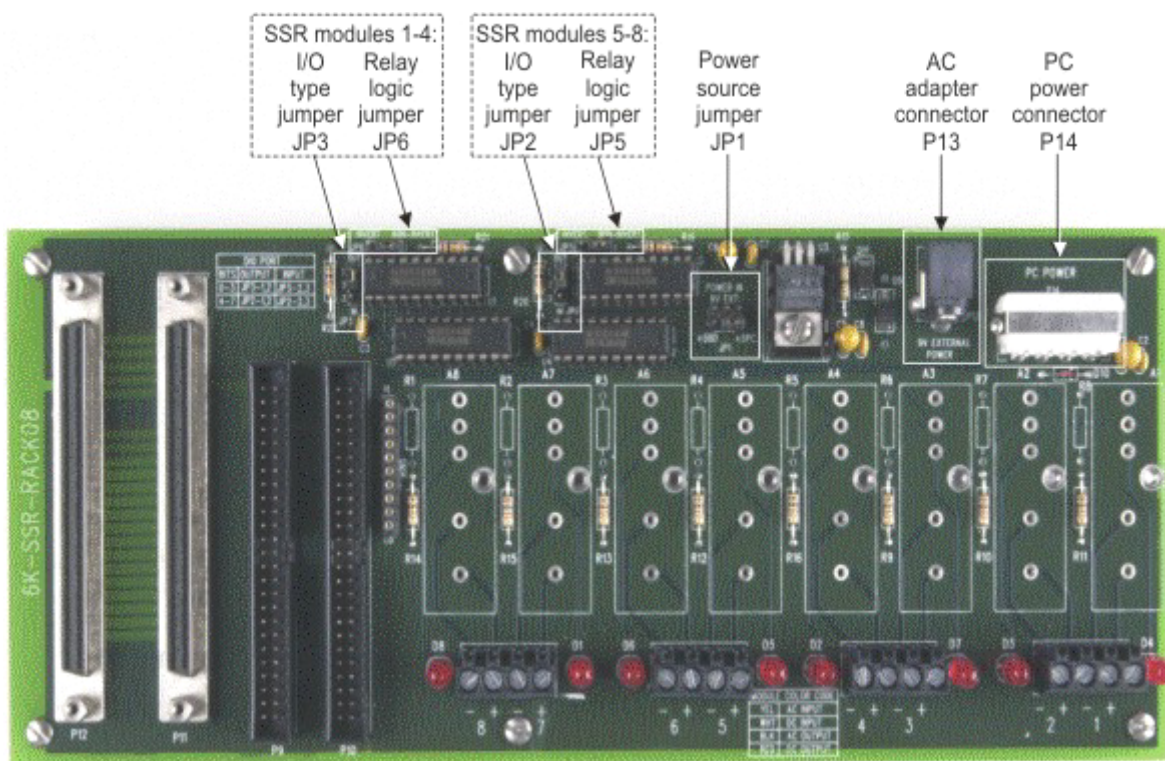
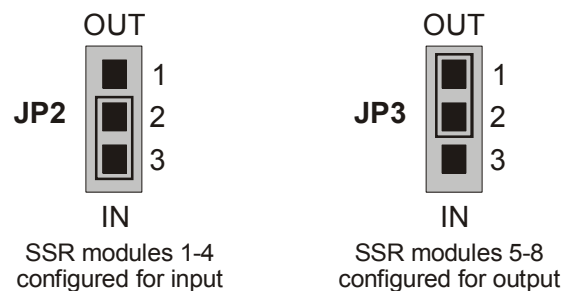

Figure 2-4. 6K-SSR-RACK08 board jumpers and external power connectors
Figure 2-6. I/O module type jumpers
Figure 2-4 shows the location of the jumpers and power connectors on the 6K-SSR-RACK08.
- Connect the other end of the power cord to the connector labeled **PC POWER** connector (**P14**) on the 6K-SSR-RACK08. Refer to Figure 2-4 for the location of this connector.
- Connect the CB-PWR-9 cable to the **9V EXTERNAL POWER** connector (**P13**) on the 6K-SSR-RACK08. Refer to Figure 2-4 for the location of this connector.
Refer to Figure 2-4 for the location of these jumpers. Figure 2-6 shows the SSR modules 1-4 configured for input (jumper position 2-3), and SSR modules 5-8 configured for output (jumper position 1-2).